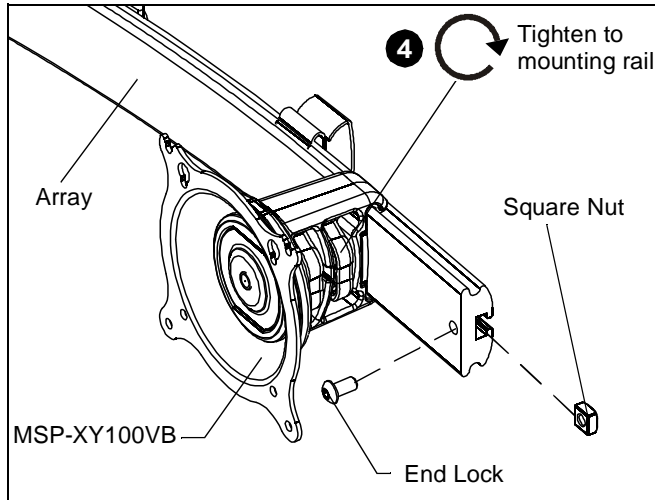

Figure 1
2. Slide display with Centris bracket onto mounting rail. (See Figure 1)
3. Install end locks into mounting rail. (See Figure 1)